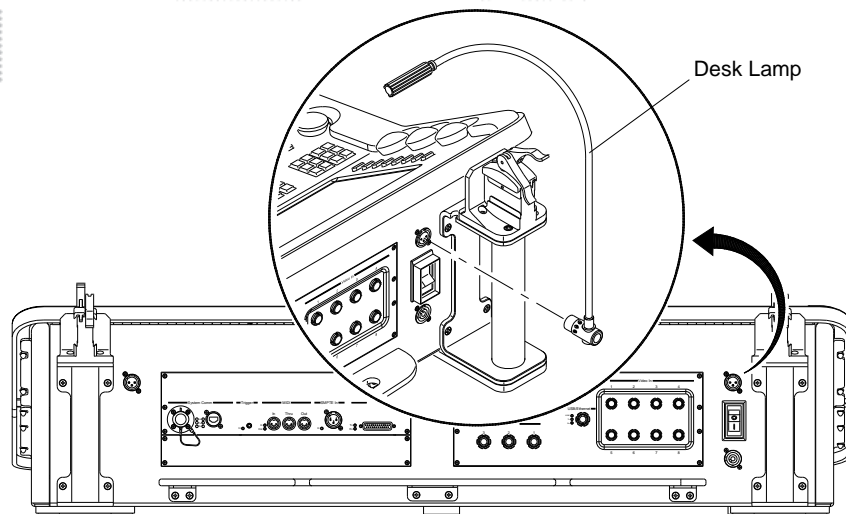

Figure 1-10: Installing V676 Desk Lamps
Step 12. At rear of console, install desk lamps (Figure 1-10).